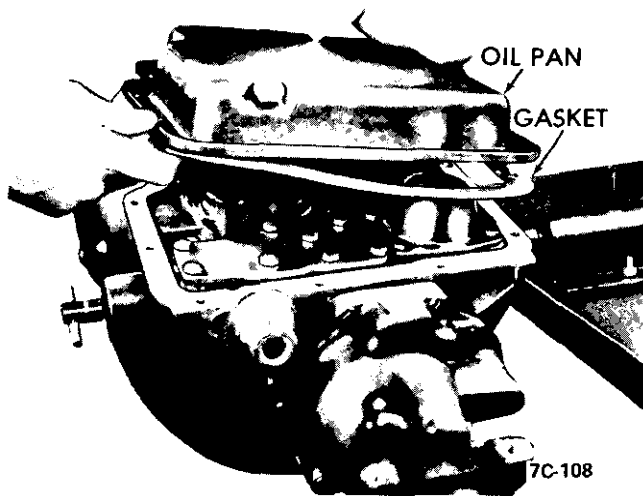

Figure 7C-108
2. Remove oil pan and gasket. See Figure 7C-108.